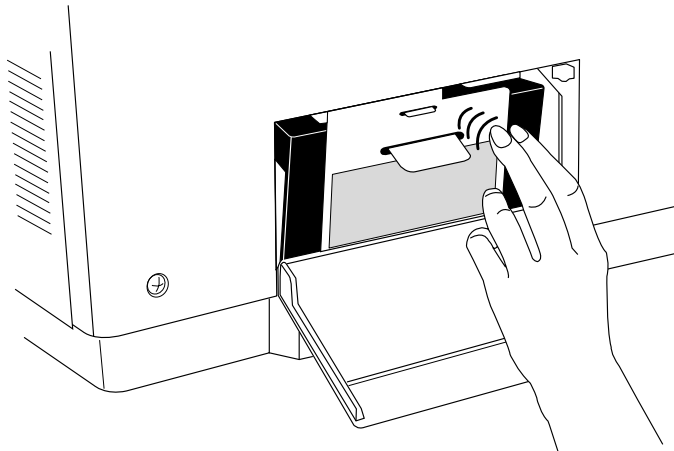

Fig. 6.4 Tap the Waste Toner Pack
3. Gently tap the old waste toner pack on its side to settle the toner down into the pack (fig. 6.4).